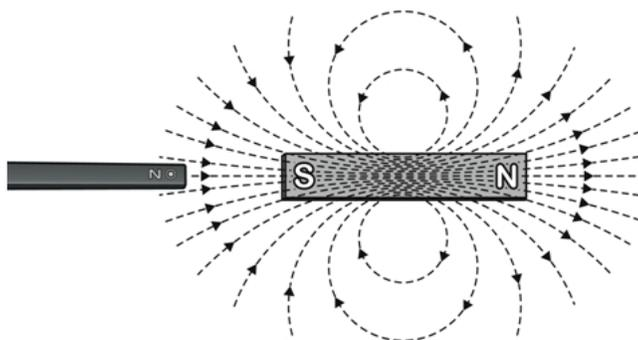

Figure 1 The x-direction measurement is positive when the wand points toward the south pole of the magnet.
4. One way to think of how our Magnetic Field Sensors work is that they measure the quantity and direction of the magnetic field lines that cut through the end of the probe (see Figure 1).